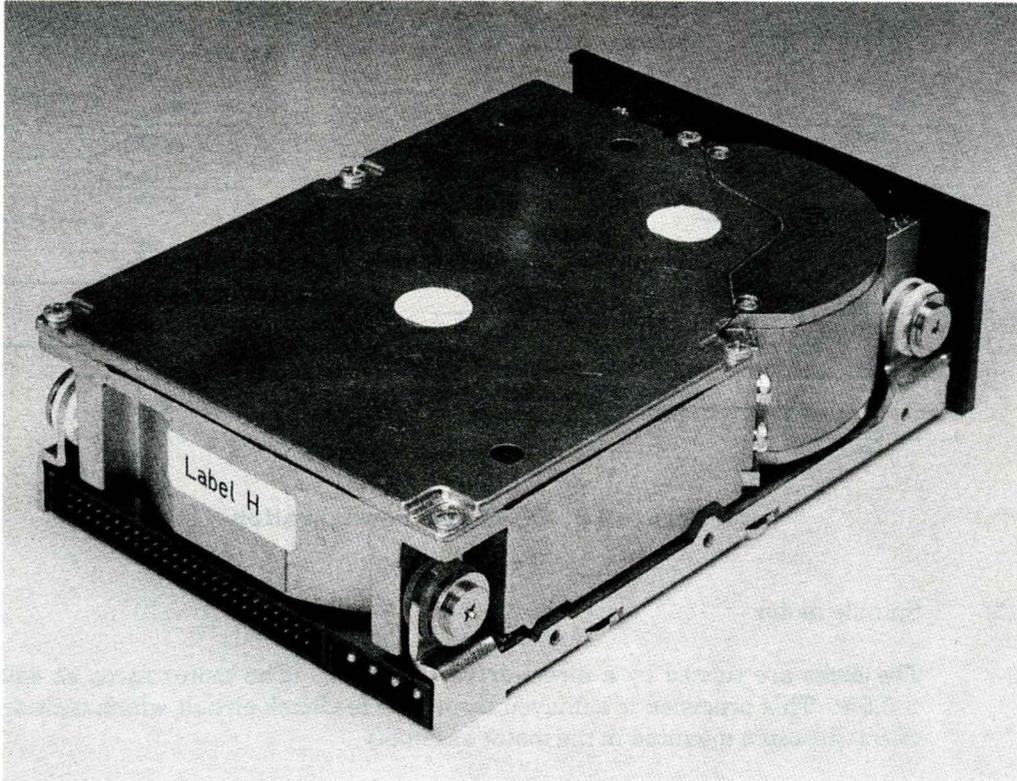

Figure 1.1 M2624S outer view
Figure 1.1 shows the IDD outer view. The IDD consists of a disk enclosure (DE), a read/write preamplifier and controller (PCA), and mounting brackets.